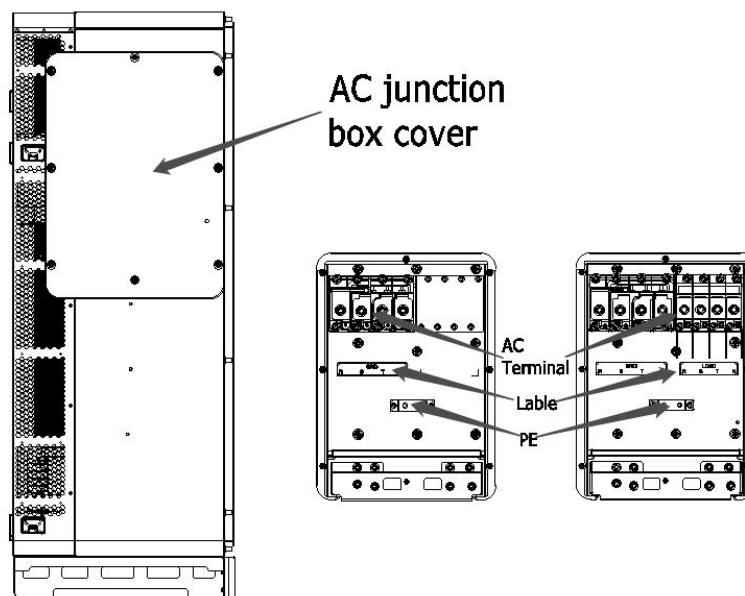

Fig 6.2 AC terminal wiring position and diagram
1. Open the cover of the AC junction box. The position of the cover is in Figure 6.2;
2. Connect a ground cable to the copper grounding bar in the AC junction box. Figure 6.2 shows the position of the grounding bar inside the AC junction box;
3. Connect the main power cables according to the label. Figure 6.2 shows the positions of the label and the AC terminals;